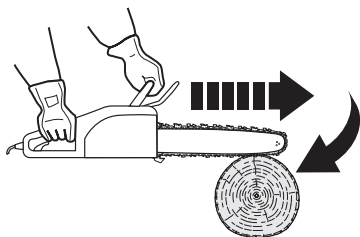

Fig. 26
1. Pinching the saw chain (8) along the bottom of the guide bar (9) may pull the product forward away from the operator (Fig. 26).